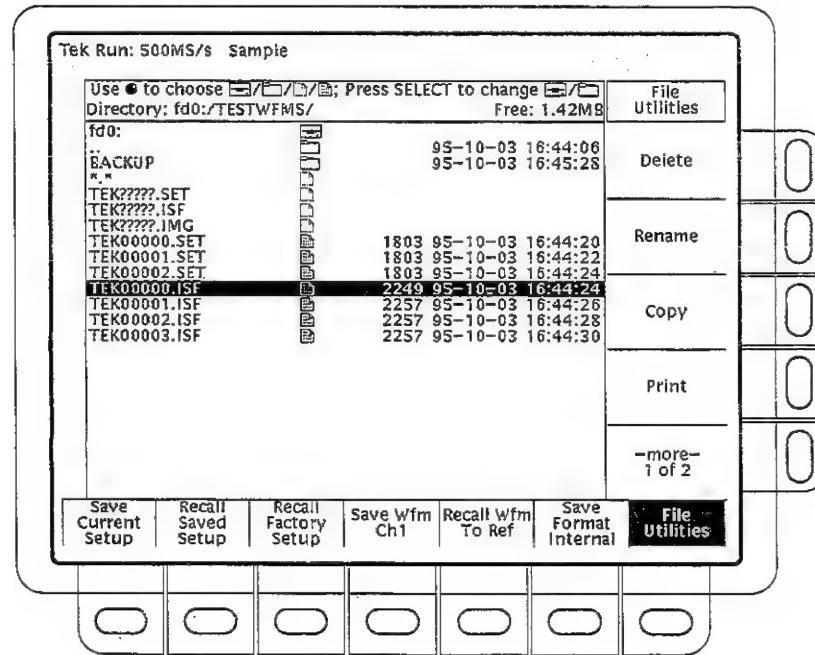

Figure 3-35: File utilities
2. Press File Utilities in the main menu to bring up the File Utilities side menu. (See Figure 3-35.)